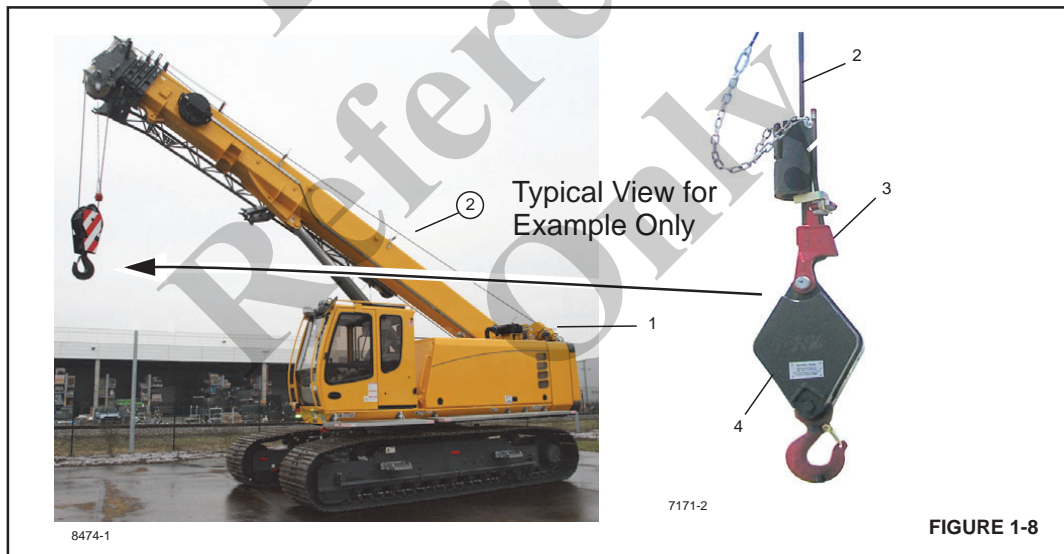

FIGURE 1-8
If your crane has the hoist mounted to the turret (as shown in Figure 1-8) - DO NOT connect the hoist cable to any place on the boom.
1. Remove the hook block (4) from the wedge socket (3, Figure 1-8) and feed the cable back through the boom nose until the wedge socket (3) has cleared the boom nose. Note that a typical single reeved hook block (4) is shown in Figure 1-8, your machine may appear to be reeved differently.
2. Slowly re-wind the hoist cable until the wedge socket (3) is within several feet of the stowing point.
3. Slowly rewind the hoist cable (2) until any remaining slack is removed and the cable is snug.